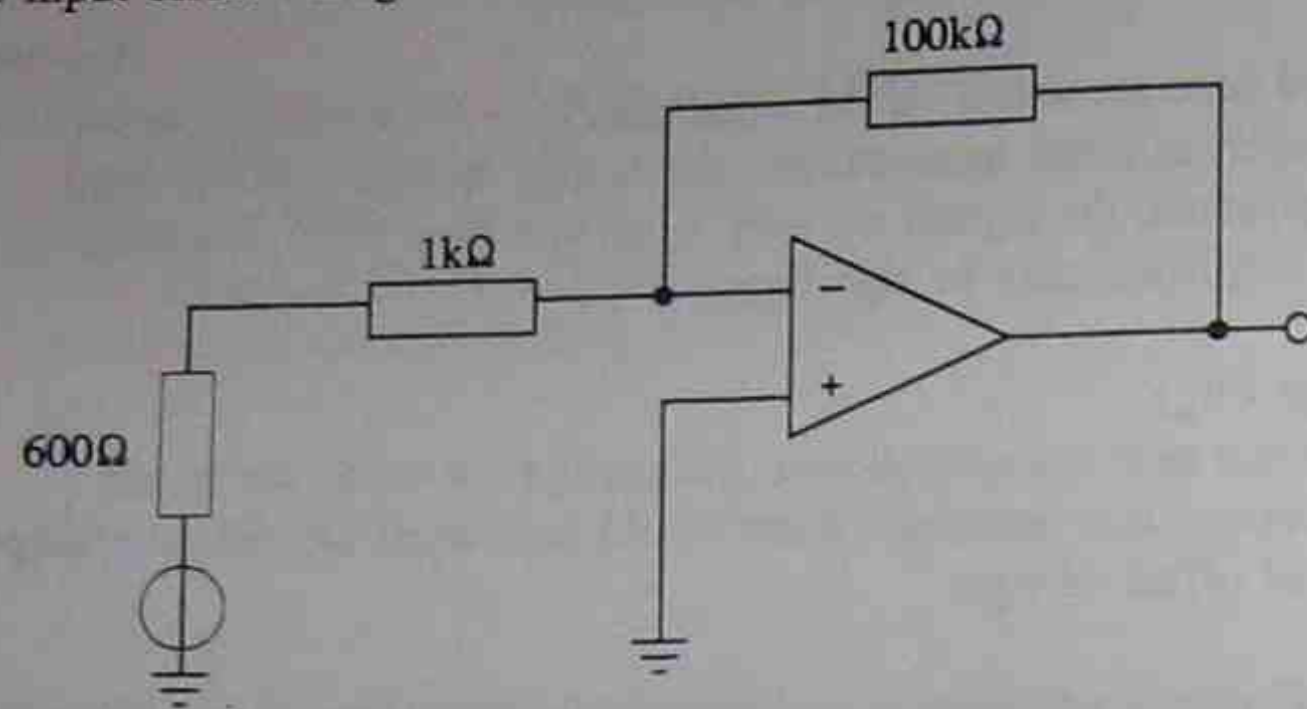

Fig. 1 Calculation of the effect of input offset voltage
In the circuit of Figure 1, supposing the op amp has input bias current of 100 nA, the output DC voltage due to the bias current alone, ignoring the input offset voltage, is  $100 \text{ nA} \cdot 100 \text{ k}\Omega = 10 \text{ mV DC}$ .
- (a) For the circuit of Figure 1 design a bias current compensation.